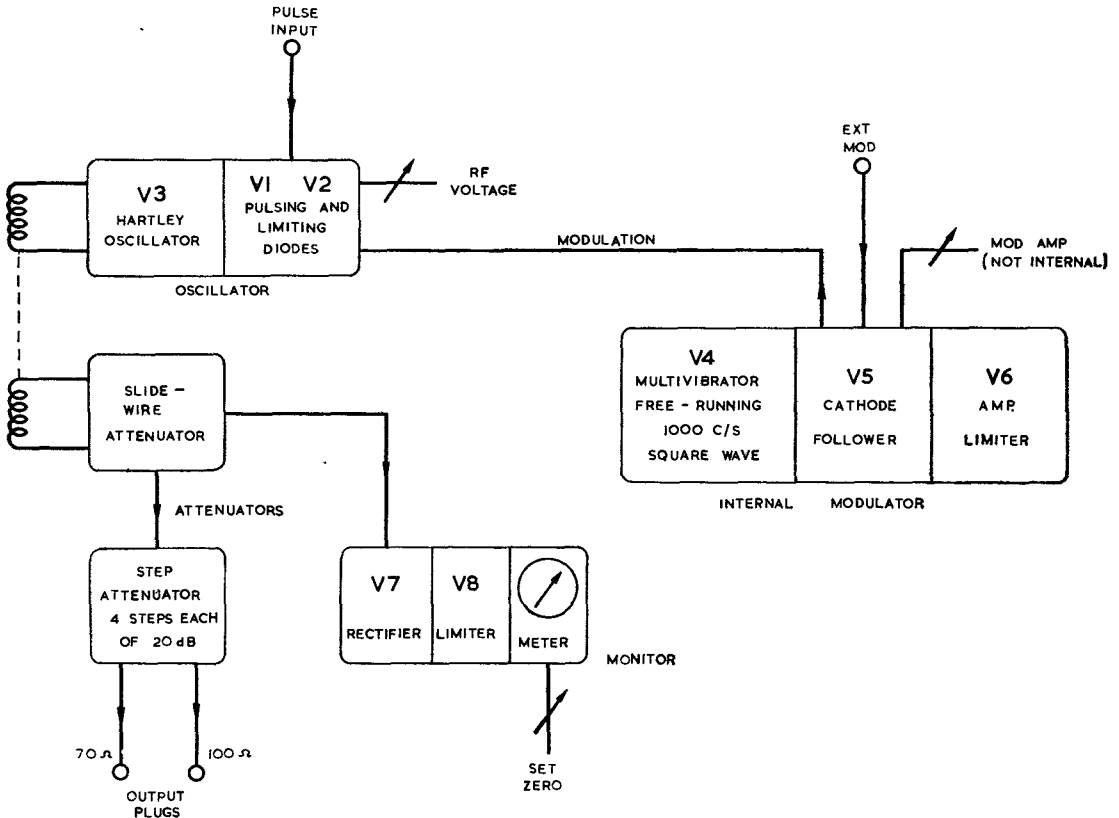

Fig. 11. Signal generator Type 106 : block diagram
35. In the block diagram of fig. 11, V3 is a Hartley oscillator with switched coils for band changing. Oscillation amplitude is controlled by V1 and V2, pulsing and limiting diodes. The output is controlled by a slide wire potentiometer and a step attenuator which has four steps of 20dB each. With a pulse input to V3 the oscillator is allowed to function only for the duration of pulses. V4, a free running 1,000 c/s multivibrator, provides the internal modulation, feeding a square wave via V5, a cathode-follower, and V6 which acts as an amplitude limiter. V7 rectifies part of the output and this gives an indication of output on a 0-50 microammeter. The meter is shunted by a 25K variable resistor in series with a diode, V8, to permit zero adjustment.